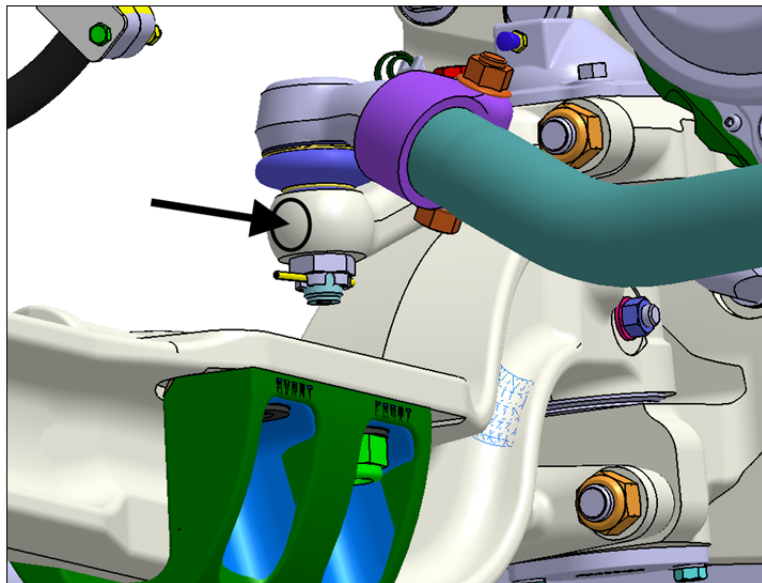

FIGURE 3 : TAP THE SIDE OF THE STEERING ARM TO UNDO THE TAPERED JOINT
5. Disconnect the drag link from the steering arm. Using a hide faced mallet, tap the side of the steering arm to undo the tapered joint (see **FIGURE 3**).